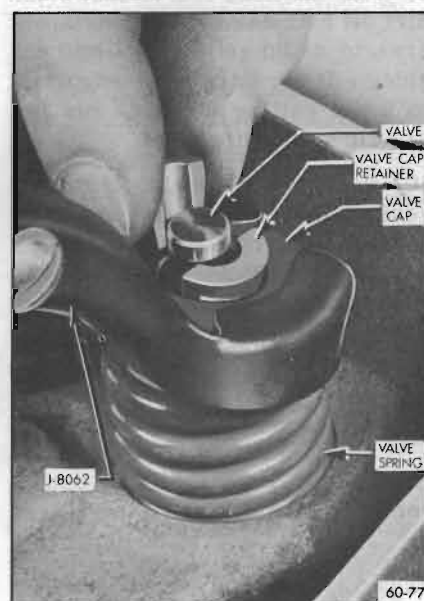

Figure 60-314—Removing Valve Cap Retainers
2. Using suitable spring compressor, such as J-8062, compress valve spring and remove cap retainers. Release tool and remove spring and cap. See Figure 60-314.